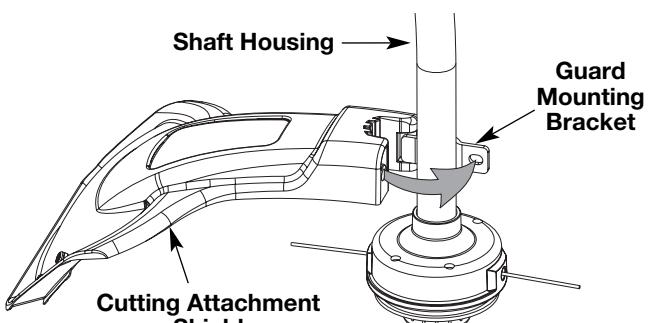

Fig. 2
- Place the cutting attachment shield onto the shaft housing. Be sure the guard mounting bracket slides into the slot on the edge of the cutting shield. Rotate the shield into place, counterclockwise. The holes in the guard mounting bracket and cutting attachment shield will line up (Fig. 2).